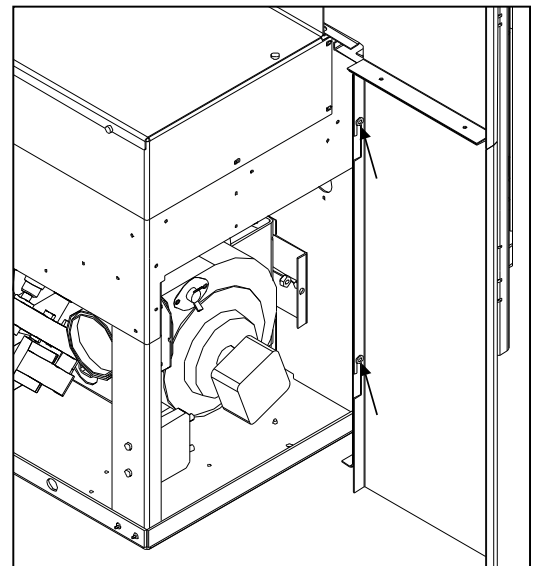

Figure 33: Installed Surround Panel.
2. Place the assembled surround panel around the stove; align the slots with the screw heads. Push surround in then down to engage the surround slots on the mounting screws (see Figure 33). Make sure the top surround panel sits flat behind the stove top.